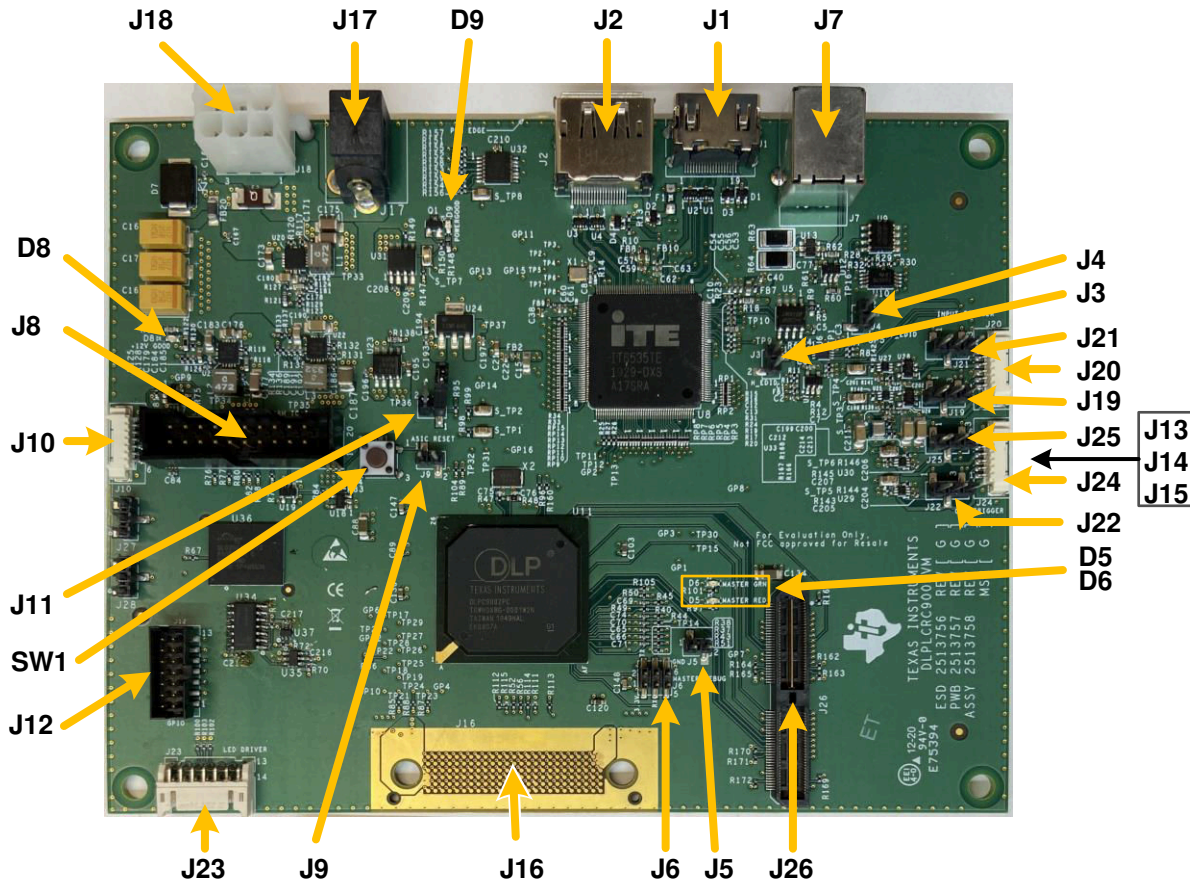

Figure 4-3. DLP LightCrafter Single DLPC900 EVM Connectors (Top View)
Figure 4-3 depicts the switches and connectors with the respective locations.
1. Connect a 12V DC power supply to the power supply connector J17 in Figure 4-3.
5. Connect a USB cable from a PC to connector J7 on the DLP LightCrafter Single DLPC900 EVM, as seen in Figure 4-3. The first time the cable is connected on a PC, the DLP LightCrafter Single DLPC900 EVM enumerates as a USB composite device with human-interface device (HID) class. No drivers are required since these are natively handled by the Windows operating system.